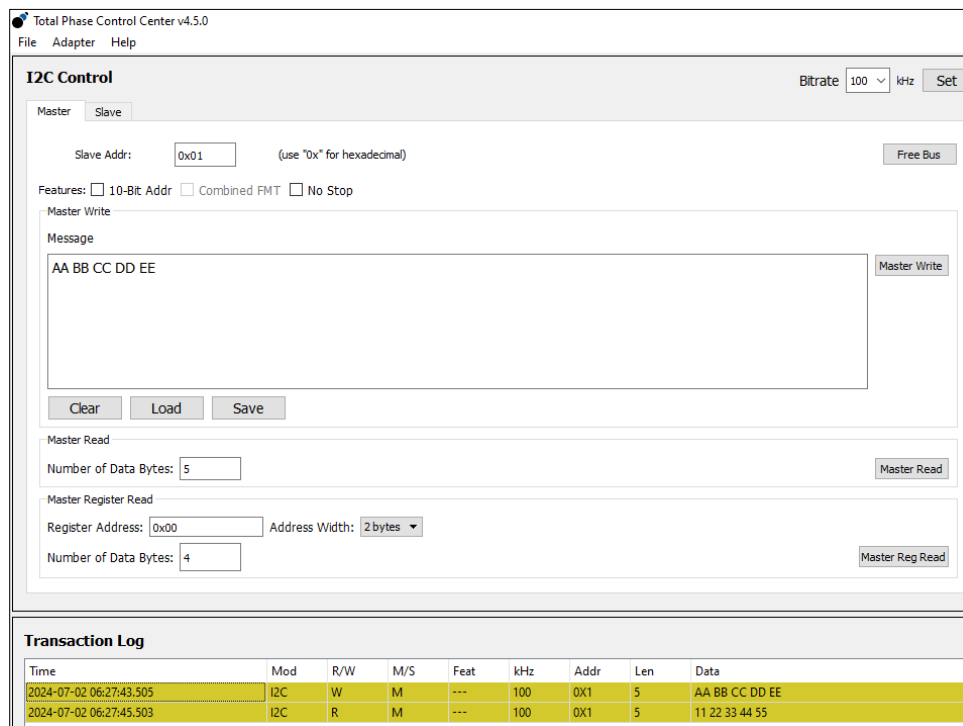
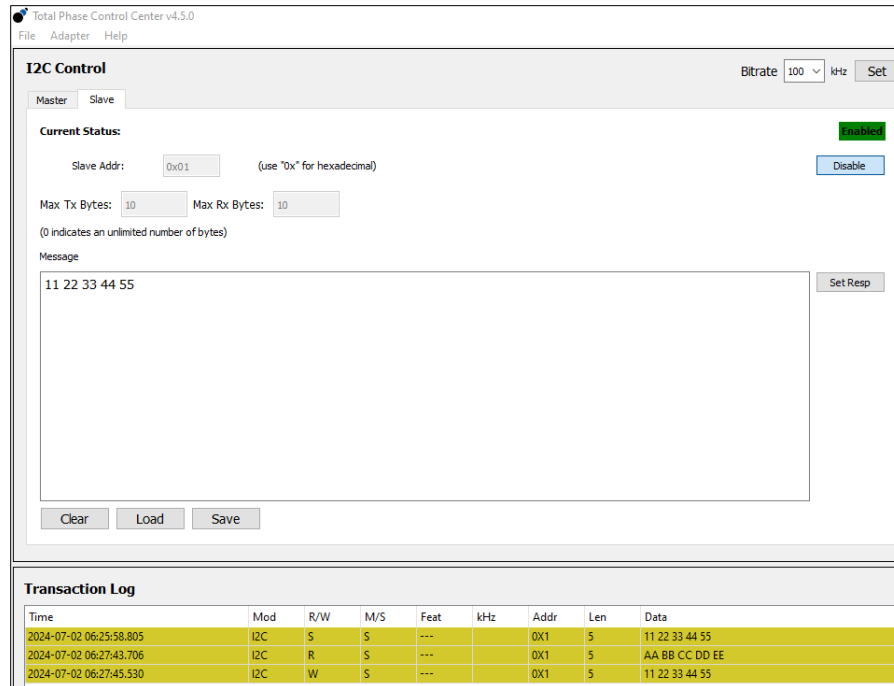

Figure 6.8. Aardvark Controller
Figure 6.9. Aardvark Target
- Do a simple I2C transaction. Input I2C data to Write message and click **Master Write** (Figure 6.8). Check I2C communication by clicking **Master Read**. Set response from the target should be visible on the Transaction Log (Figure 6.9).